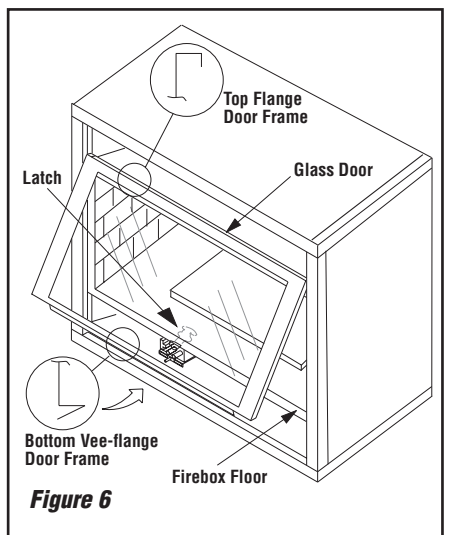

Figure 6
- 1 - Lower the bottom control compartment access panel. Remove the glass enclosure panel: open the latch (located in the center of the unit front opening, under the firebox floor) securing the glass enclosure panel. Remove the panel by tilting it outward at the bottom and lifting it up. Set the door aside protecting it from inadvertent damage. See **Figure 6 on Page 7**.
Refer to **Figure 6** and remove the front glass enclosure panel as follows: